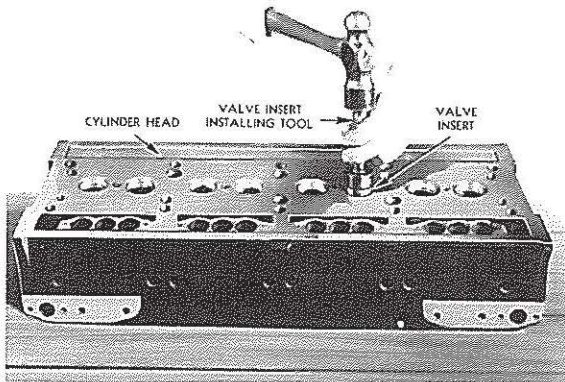

FIG. 17
10. Using special locating and driving tool, shown in Fig. 17, insert pilot end of driver into valve guide and drive insert down tight into counterbore. This operation must be done quickly, while the valve seat inserts are cold.